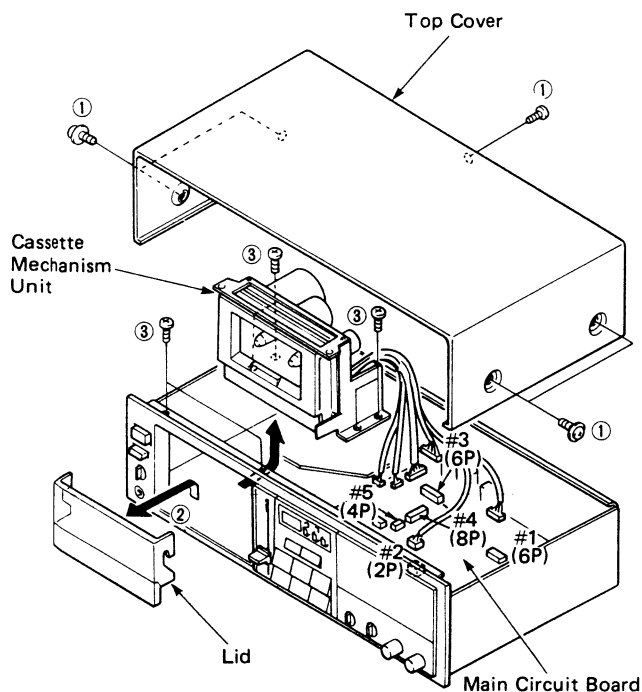

Fig. 1
Remove 5 screws (①) in Fig. 1.
- Remove the Lid (②) in Fig. 1.
- Detach 6 connectors (#1 ~ #5) in Fig. 1.
- Remove 6 screws (③) in Fig. 1 and then pull off the mechanism unit to the back side gently.